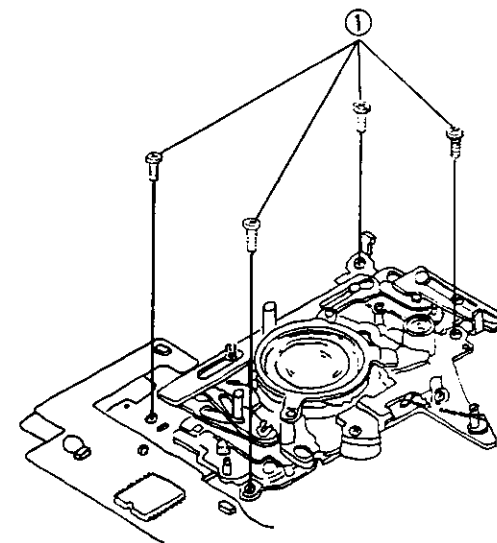
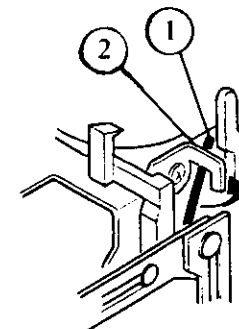

Fig. 11
Fig. 16
- (11) Take off four Screws (No. 1) shown in Fig. 11.
- (12) Remove the Shutter ass'y.
- (1) Set the Shutter ass'y to the Body with four Screws shown in Fig. 11.
- (2) Set the P. plate: wind (P. 30 No. 2) to the Shutter with the Screw (P. 30 No. 1).
- (3) Set the Spring (No. 1) to the portion of the Shutter (No. 2) shown in Fig. 16.